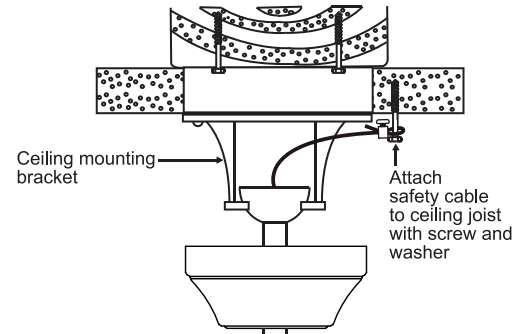

Fig. 13
Step 1. Attach the provided wood screw and washers to the ceiling joist next to the mounting bracket but do not tighten. (Fig.13)